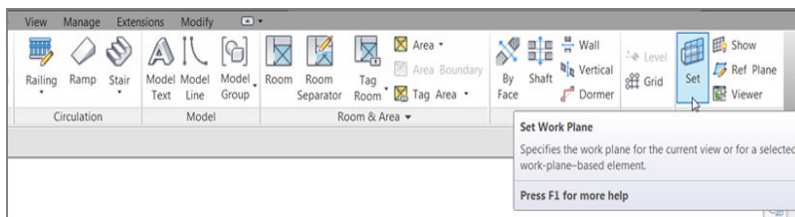

FIGURE 12.73: The Set button on the Work Plane panel of the Architecture tab
2. On the Architecture tab, click the Set button in the Work Plane panel, as shown in Figure 12.73.